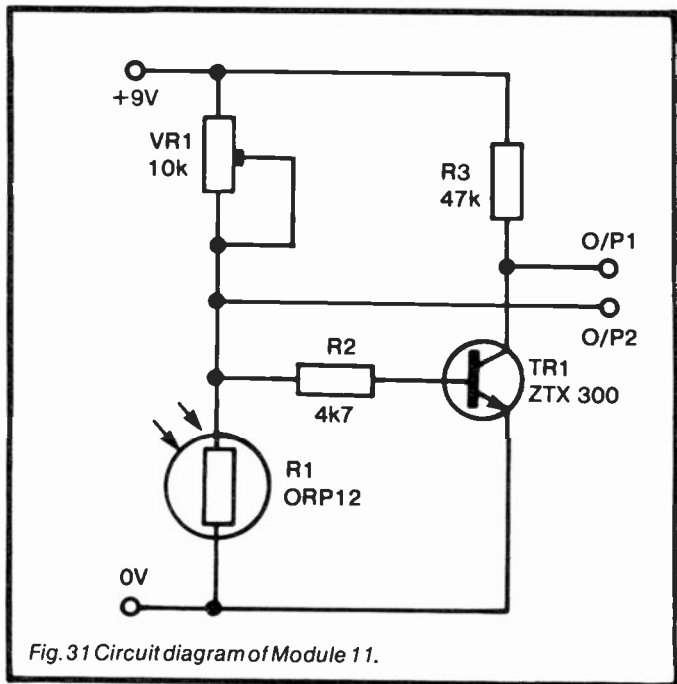

Fig. 31 Circuit diagram of Module 11.
*Circuit diagram:* see Figure 31.